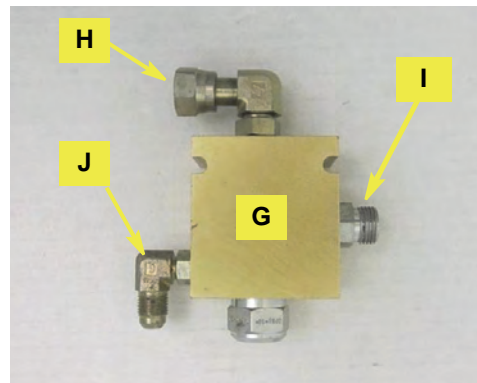

Figure 5a: Prepared dynamic load sense valve
- a. Prepare the load sense valve **G** by installing fittings **H**, **I** and **J** as follows (Figure 5a):